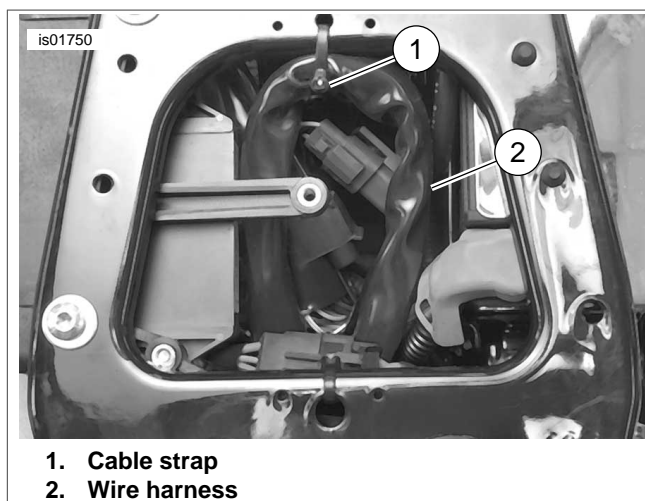

Figure 3. Dyna Service Loop (2005-Earlier)
4. *2005-Earlier FXDWG:* See Figures 3 and 4. Remove plug on right side of top frame tube. At service loop, remove cable clip and push wire harness into top frame tube. Pull connector out from hole on right side of tube.